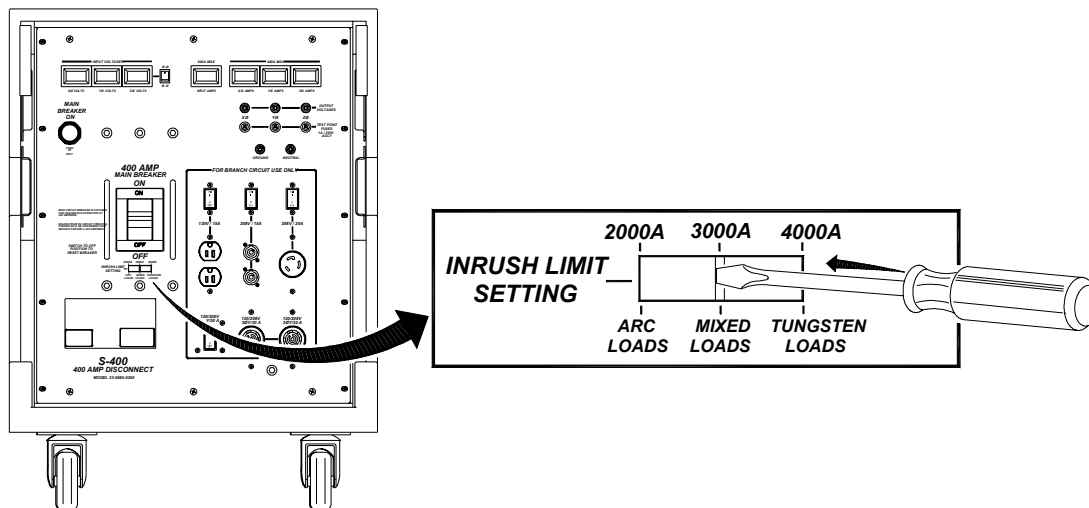

Figure 5: Inrush Limit Setting Switch
Step 1. Set Inrush Current Limit considering the type of load that the Disconnect will be protecting (refer to guidelines above). The Inrush Current Limit adjustment is located directly below the Main Breaker handle (**Figure 5**) and is adjusted by inserting a flat blade screwdriver into the vertical slot of the curved, recessed control. Moving the control to the left reduces the Main Breaker's tolerance of inrush current and moving it to the right increases the Main Breaker's tolerance.